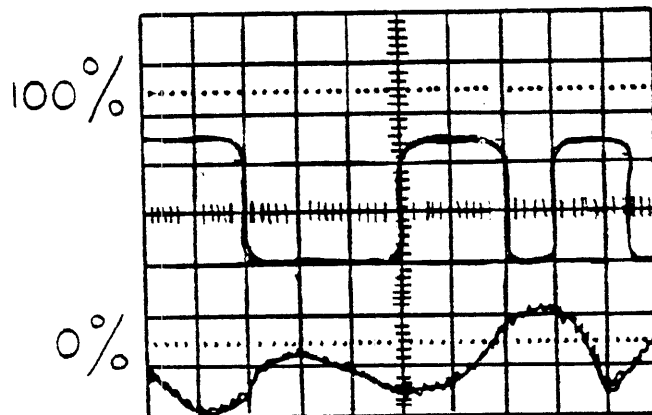

FIGURE 2. THE 2F SIGNAL ON THE OSCILLOSCOPE SCREEN.
- 7.3.3 Observe the waveform on the oscilloscope screen. It must look like the 2F signal shown in Fig. 2. The question "CAN YOU SEE THE 2F PATTERN?" will appear on the monitor screen. If so, press "Y" (for "YES") and continue with the asymmetry test.